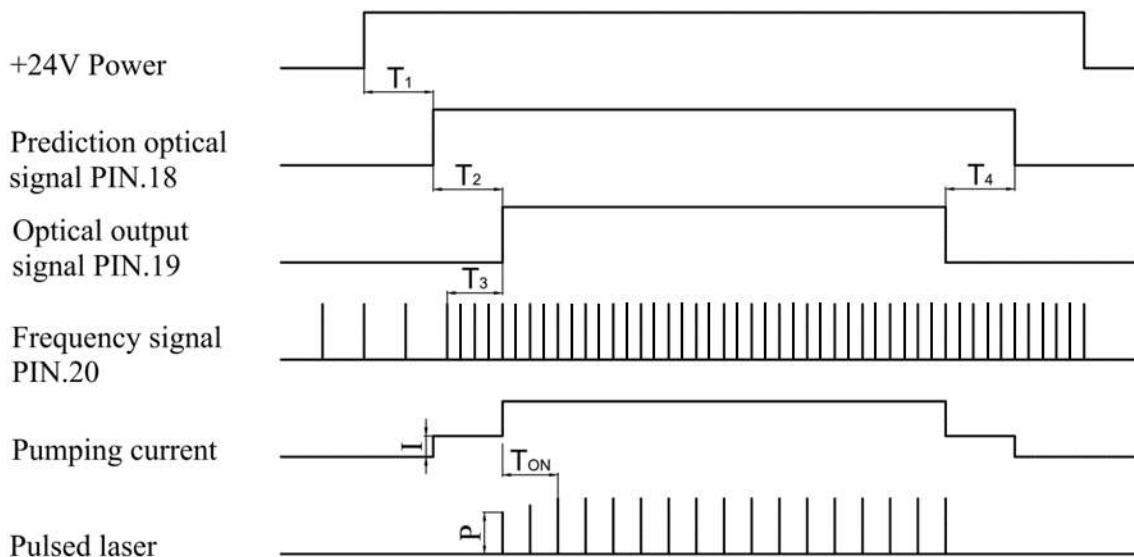

Figure 9. DB25 sequence diagram
- f) Below Figure 9. ure shows DB25 sequence diagram: